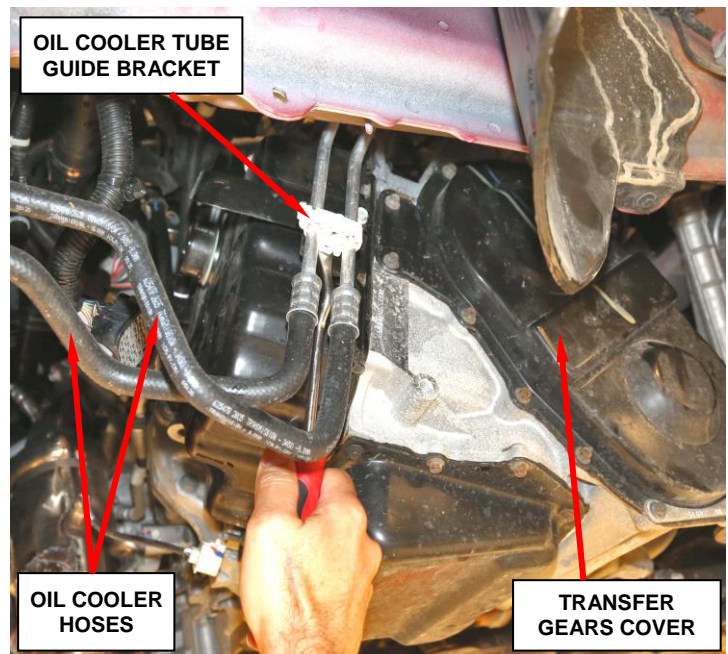

Figure 27 – Oil Cooler Tube Guide Bracket
28. Disconnect the oil cooler tube guide bracket from the transaxle (Figure 27).